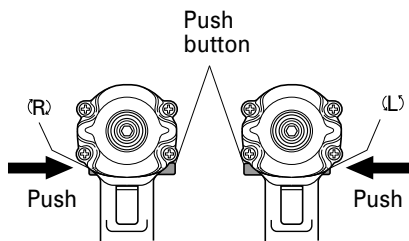

Fig. 14
The bit rotates clockwise (viewed from the rear side) by pushing the R-side of the push button. The L-side of the push button is pushed to turn the bit counterclockwise. (See Fig. 14). (The (L) and (R) marks are engraved on the body.)